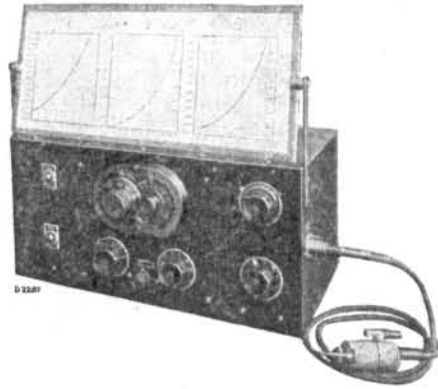

Fig. 4
1. Service oscillator GM 2880F (fig. 4).